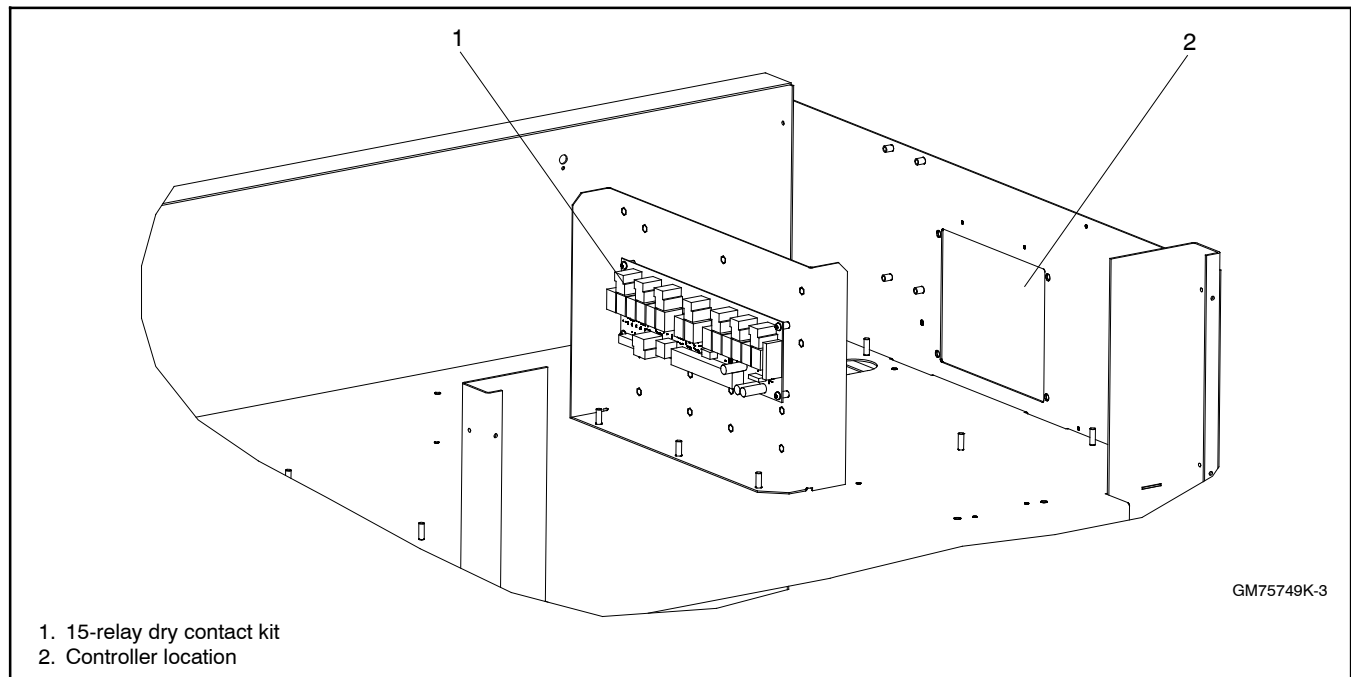
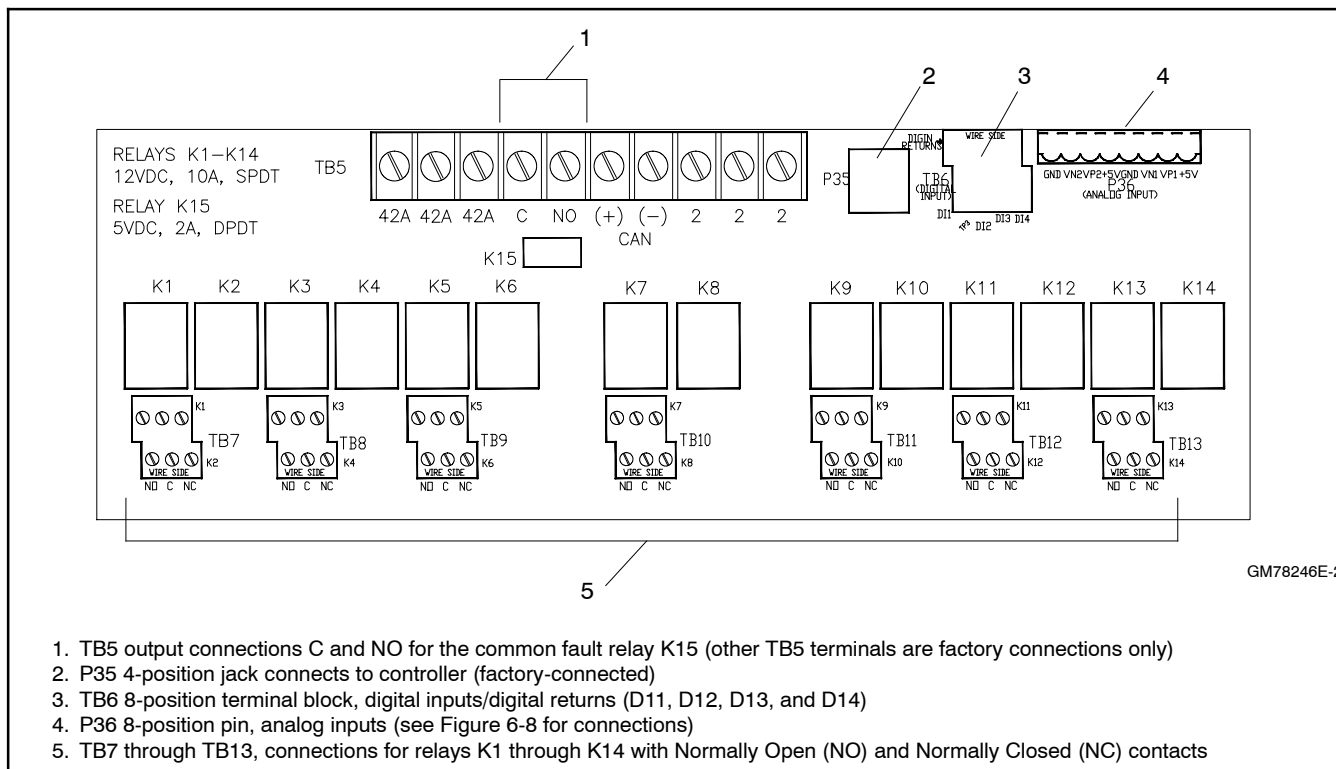

Figure 6-6 Optional 15-Relay Dry Contact Kit
Figure 6-7 15-Relay Dry Contact Board
The optional 15-relay dry contact kit (see Figure 6-6 and Figure 6-7) provides normally open and normally closed contacts to activate warning devices and other user-provided accessories allowing remote monitoring of the generator set. Connect any controller fault output to the dry contact kit. Typically, lamps, audible alarms, or other devices signal the fault conditions.
4. Remove the top panel of the controller connection box. See Figure 6-6 for location of the relay board.
Note: See Figure 6-7 for P36 and TB7- TB13 locations.